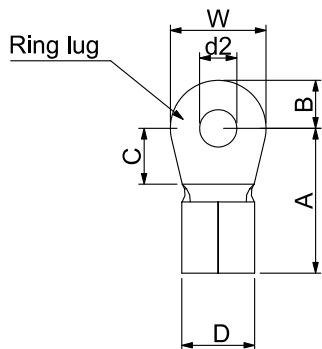
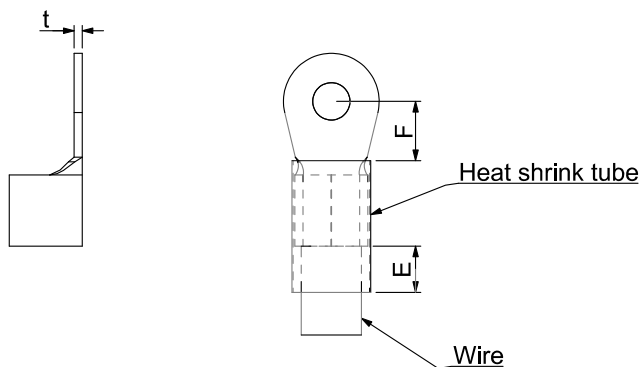

Figure 5-7
Figure 5-8
- Use the specified ring lug for main circuit terminal wiring. See Figure 5-7 and Figure 5-8 for ring lug specifications. For other types of wiring, use the wires that comply with the local regulations.
- After crimping the wire to the ring lug (must be UL and CSA approved R/C (YDPU2)), then install heat shrink tubing rated at a minimum of 600 V_{AC} insulation over the live part. Refer to Figure 5-8 below.